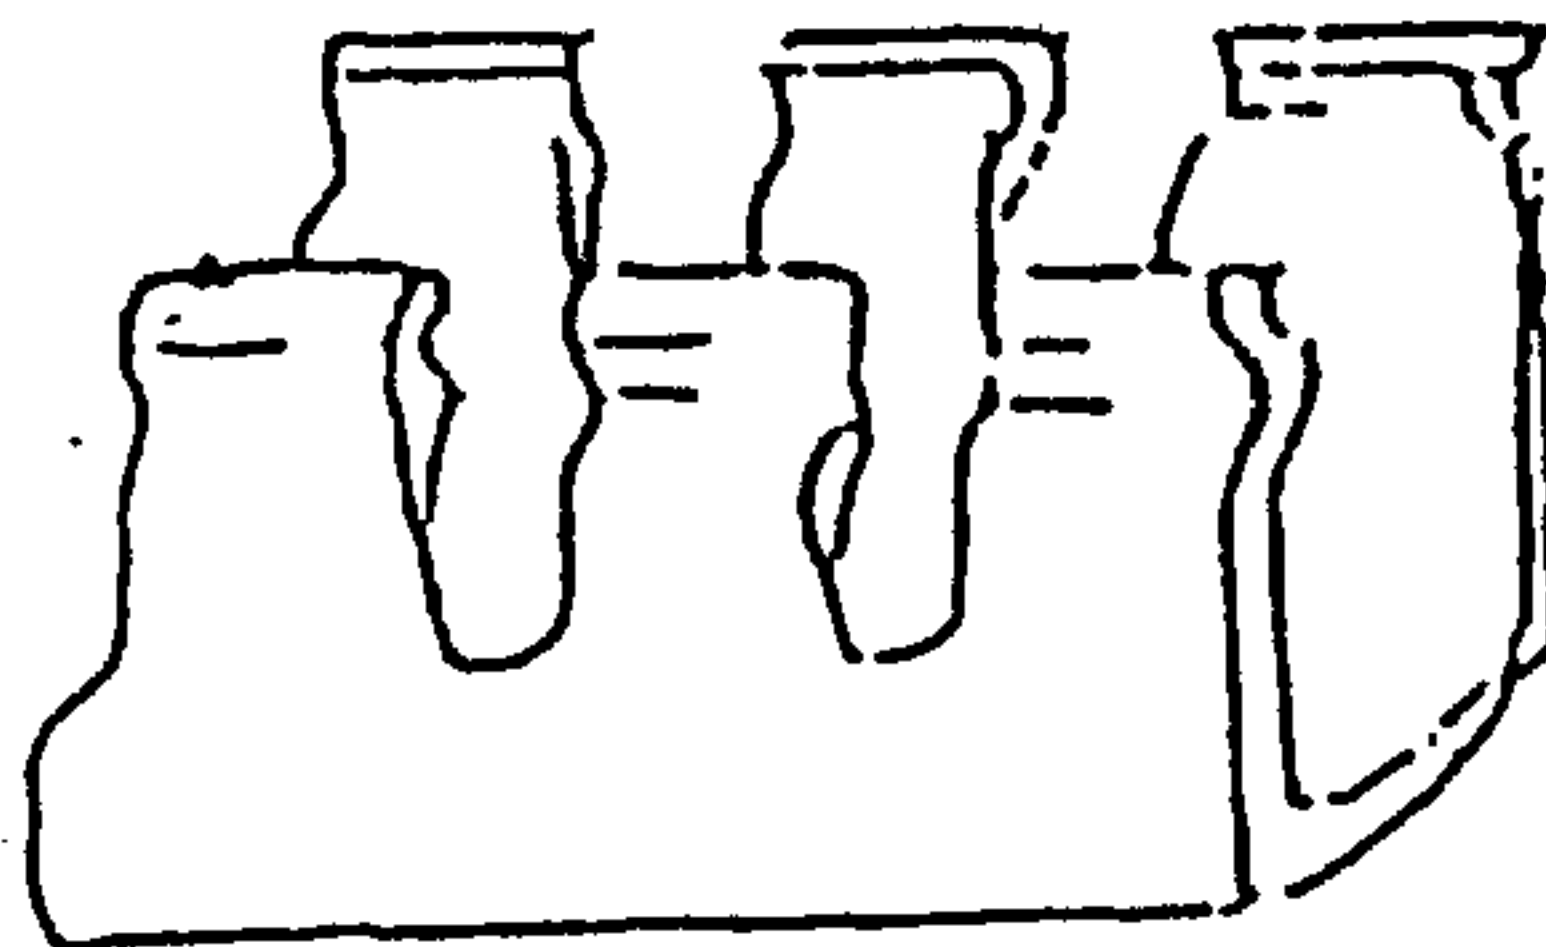

Figure 7
- (a) Follow the following Figure 7 for recommended form of the internal duct.